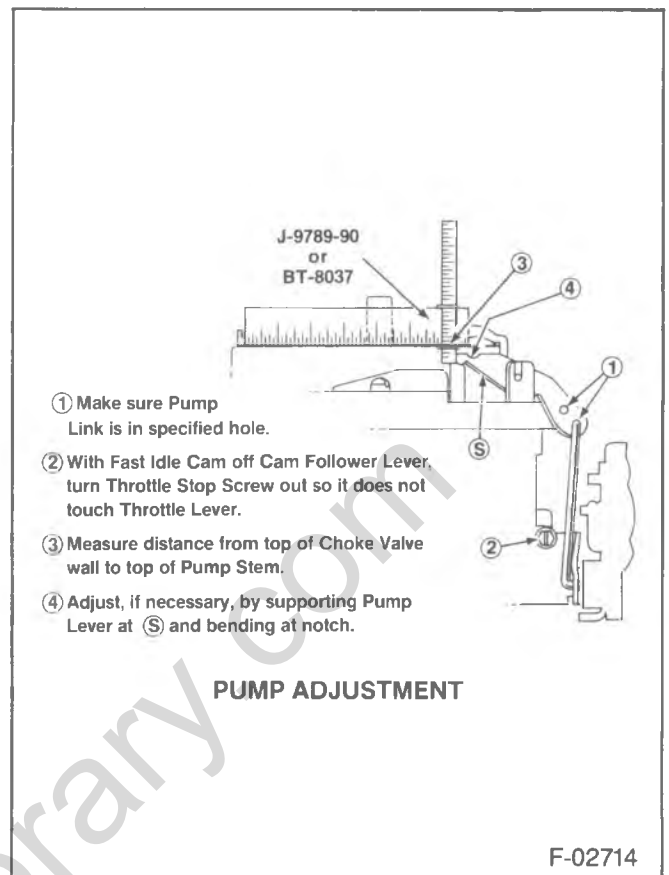

Figure 41—Pump Adjustment
1. The pump link (410) must be in the specified hole (figure 41).
2. With the fast idle cam off the cam follower lever, turn the throttle stop screw (380) out so it does not touch the throttle lever.
4. Adjust, if necessary, by supporting the pump lever (41) with a screwdriver and bending it at the notch.